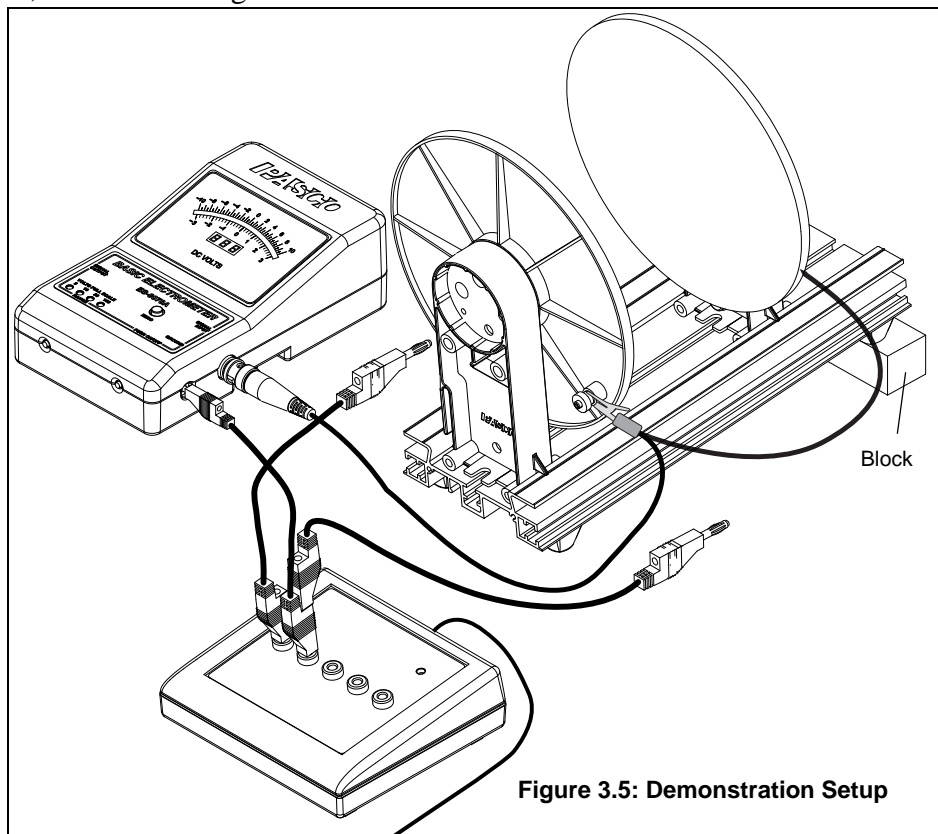

Figure 3.5: Demonstration Setup
2. Raise the side of the set up nearest the movable plate by setting a block about 3 cm high below it, as shown in Figure 3.5.